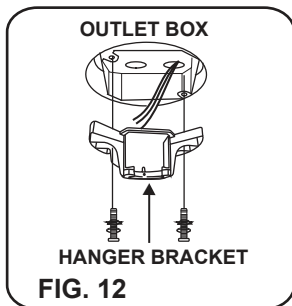

FIG. 12
Step 1. Secure the Hanger Bracket to the ceiling outlet box using the screws provided with your outlet box in conjunction. (Fig. 12)